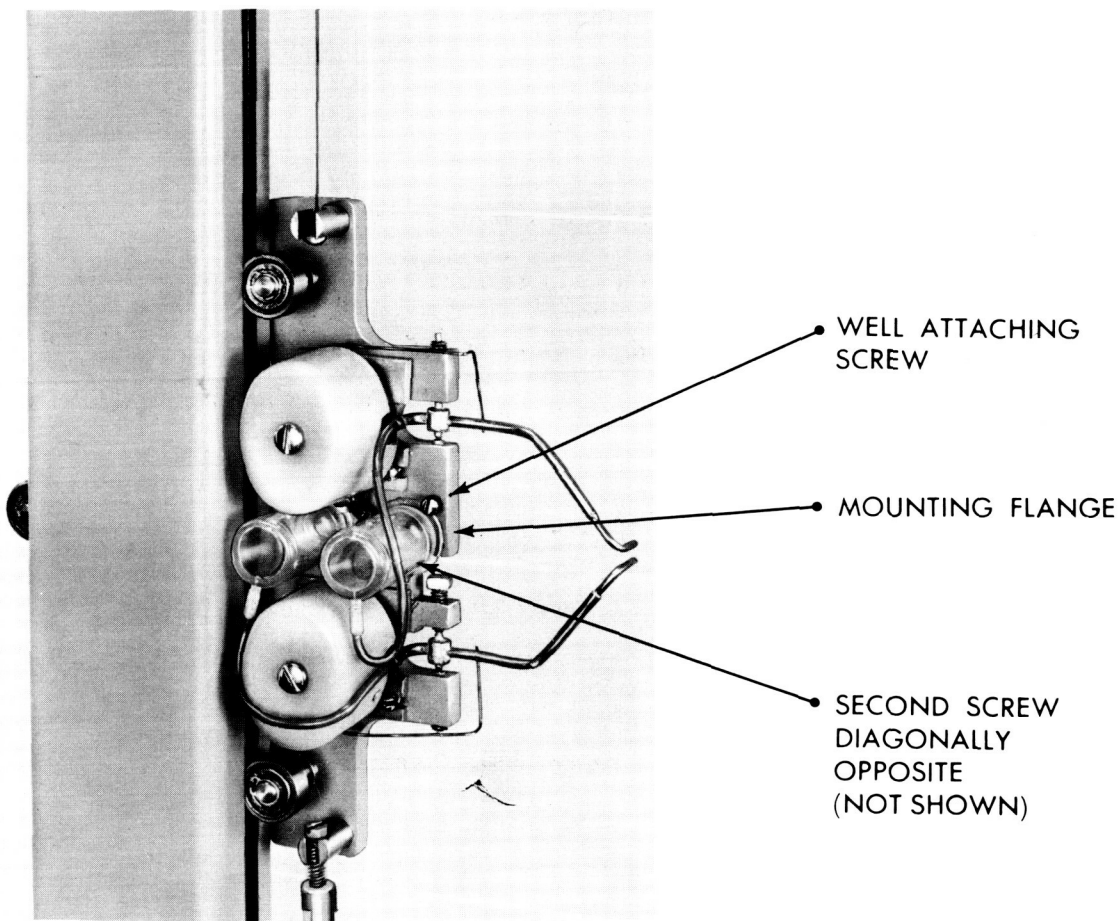

Figure 5-1. Ink Well, Hose, and Pen Assembly Removal.
- a. Loosen the two screws which attach the well to be removed. (See Figure 5-1).